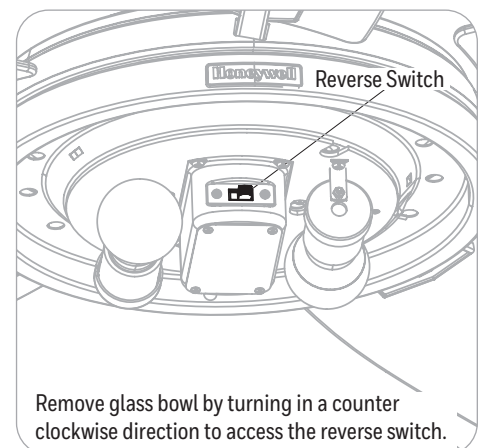

Figure 6.3
- Using a ceiling fan will allow you to raise your thermostat setting in summer and lower your thermostat setting in winter without feeling a difference in your comfort. The reverse switch is located on the switch housing (Figure 6.3).